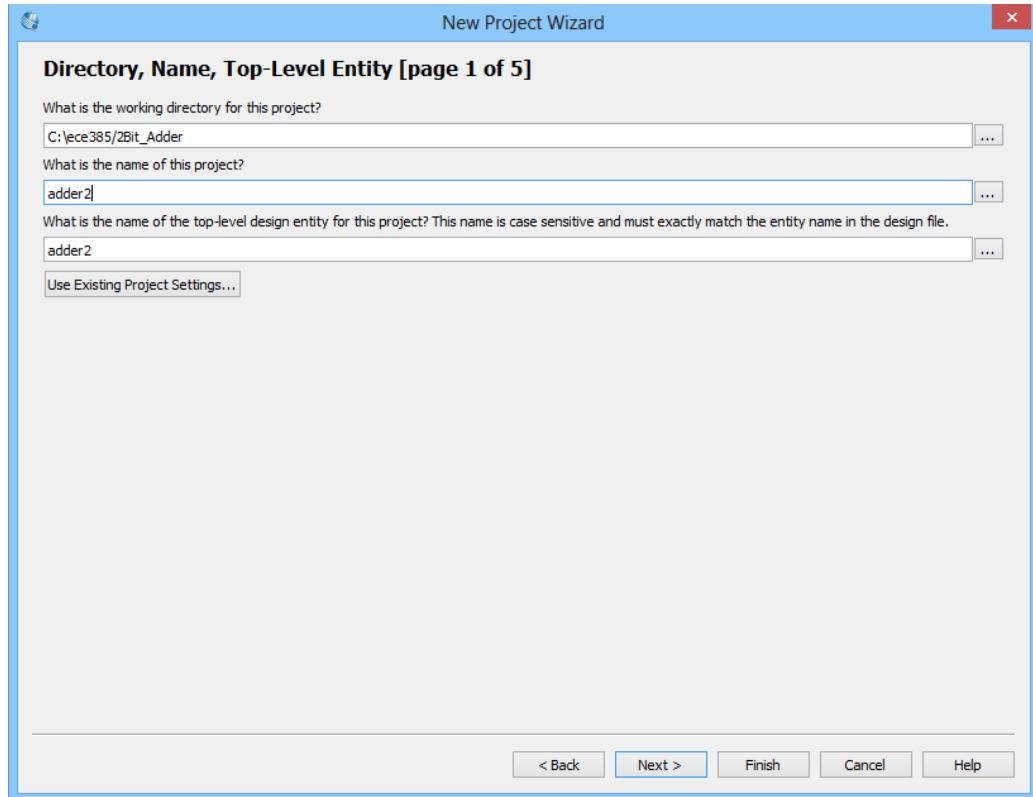

Figure 1
- The window in Figure 1 will appear. Fill in the fields from Figure 1 (make sure there are no spaces in any of your entries). The program will ask you if it should create the specified directory if it does not exist; choose *yes*.